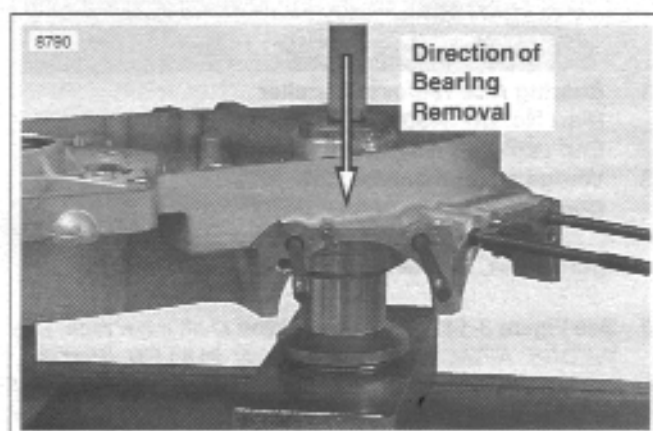

Figure 3-140. Removing Left Main Bearing from Crankcase
10. See Figure 3-140. Using CRANKCASE BEARING REMOVER/INSTALLER (Part No. B-45655 and HD-42720-2) press left main bearing out of the left crankcase half.